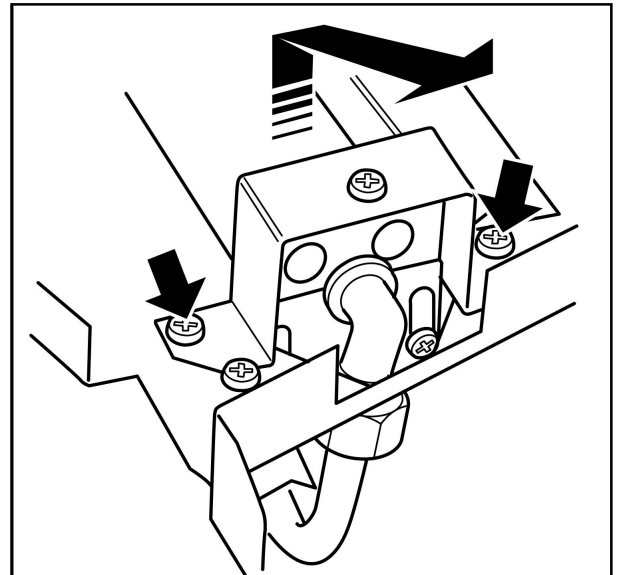

Figure 45. Removal of burner
(See figure 45).
3. Remove the two screws from the burner clamping plate (See figure 45).